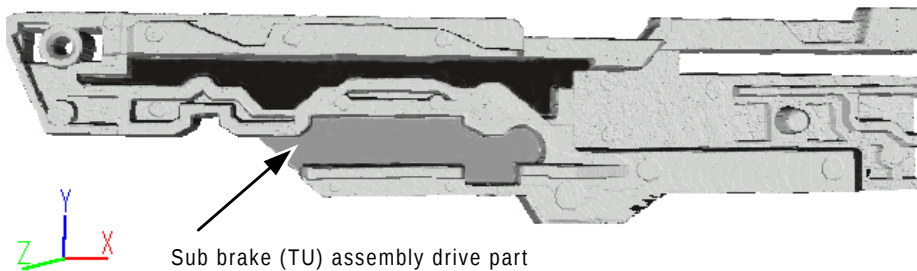

Fig. 5-3-21 Control plate (Sub brake [TU] ass'y drive part)
The sub brake (TU) assembly is connected with the control plate by its trace pin that is set in the control groove on the control plate (see Fig. 5-3-21 that shows the control plate as viewed from the upper side of the mechanism chassis).